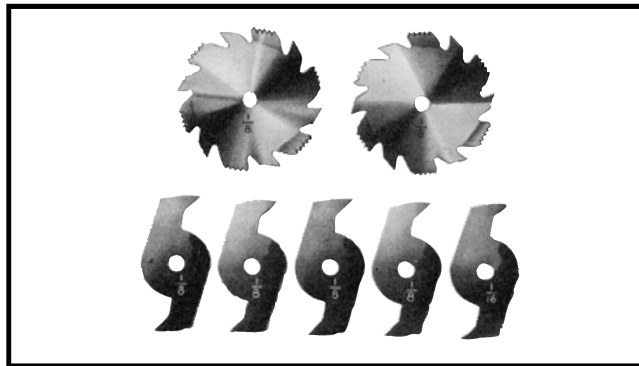
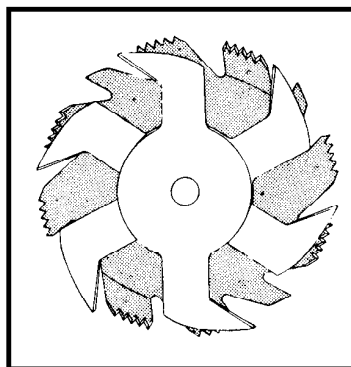
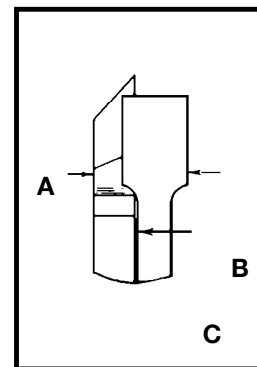

Fig. 52
Fig. 53
Fig. 54
1. Dadoing is cutting a rabbet or wide groove into the work. Most dado head sets are made up of two outside saws and four or five inside cutters, (Fig. 52). Various combinations of saws and cutters are used to cut grooves from 1/8" to 13/16" for use in shelving, making joints, tenoning, grooving, etc. The cutters are heavily swaged and must be arranged so that this heavy portion falls in the gullets of the outside saws, as shown in Fig. 53. The saw and cutter overlap is shown in Fig. 54, (A) being the outside saw, (B) an inside cutter, and (C) a paper washer or washers, used as needed to control the exact width of groove. A 1/4" groove is cut by using the two outside saws. The teeth of the saws should be positioned so that the raker on one saw is beside the cutting teeth on the other saw.